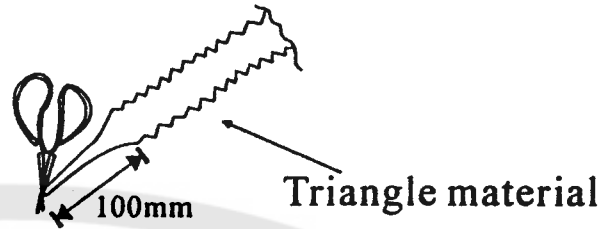

Fig.4
1. Scissor the material, which makes the front material form triangle cloth with the length of 100mm(Fig.4)